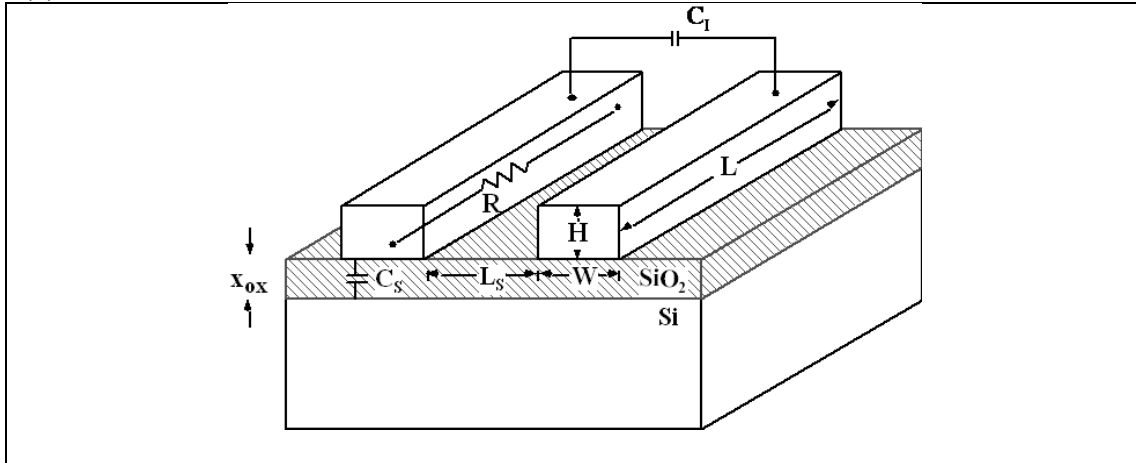

Figure 1: Interconnect structure.
- (a) Refer to Figure 1. Derive expressions for line resistance ( $R$ ), line-to-substrate capacitance ( $C_s$ ), and line-to-wire capacitance ( $C_l$ ). Useful constants include  $K_{ox}$  – oxide dielectric constant, and  $\epsilon_o$  – free space permittivity;
$$C_l = \frac{\epsilon_{ox}\epsilon_o HL}{L_s} \text{ (while not explicitly shown in Figure 1, the lines are separated by SiO2)}$$